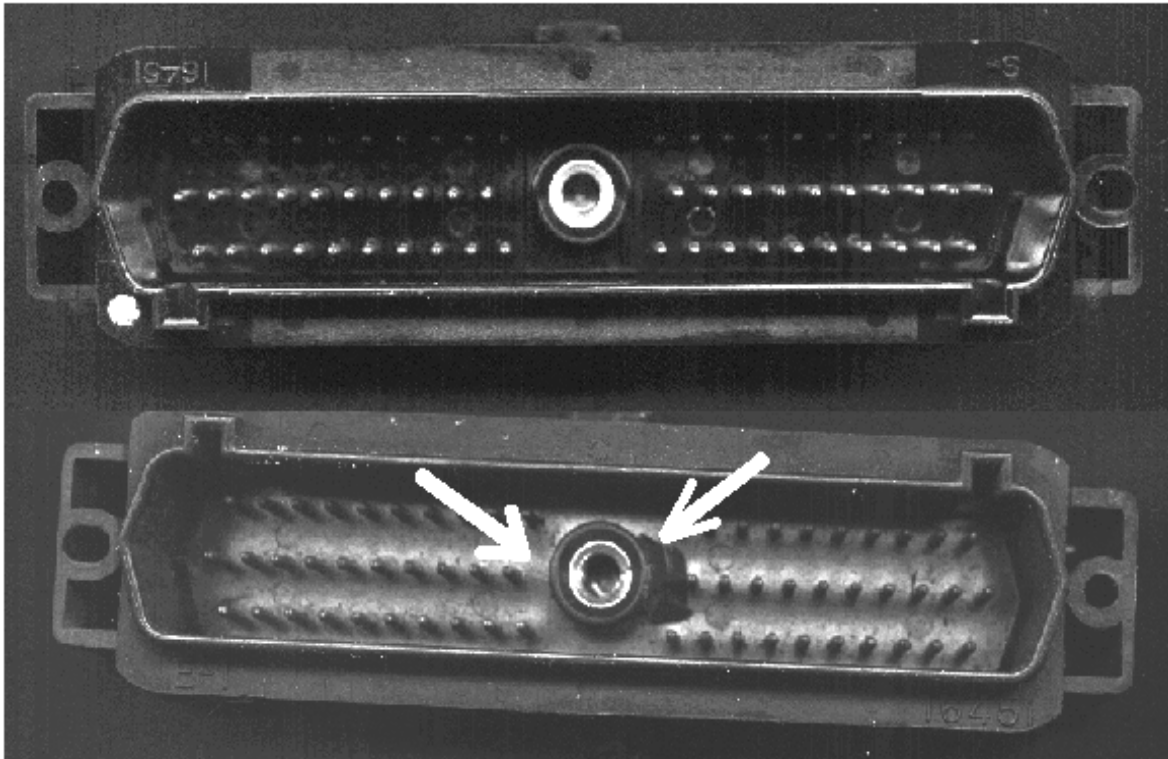

Figure 1.
The connector used in the SMEC/SBEC engine controller is a sixty (60) pin connector with a bolt boss in the center used to anchor the bolt retained in the vehicle wiring harness connector. The anchor bolt boss is the key to a good connection between the vehicle wiring harness and the electronic engine controller. If torqued down properly, the bolt in the wiring harness connector will snug down the connector creating a proper electrical connection between the vehicle wiring harness and the SMEC/SBEC controller. If under-tightened, a loose connection will exist, possibly causing erratic engine behaviour or intermittent operation. If over-tightened, the bolt may cause the boss to break away from the SMEC/SBEC connector, resulting in a poor connection. Figure 1 shows an illustration of two connectors, one above the other.
In Figure 1, you can see the good connector at the top of the illustration, directly above the defective connector.
The good connector at the top of the illustration is actually a revised new part that is used by Blue Streak Electronics to repair SMEC/SBEC computers with defective connectors. This new unit uses a reinforced bolt boss that is more durable than the original style connector assembly. The bottom connector in Figure 1 is a defective connector. The two white arrows indicate the typical areas of breakage. The white arrow on the left is indicating a hairline crack in the connector at the base of the bolt boss.